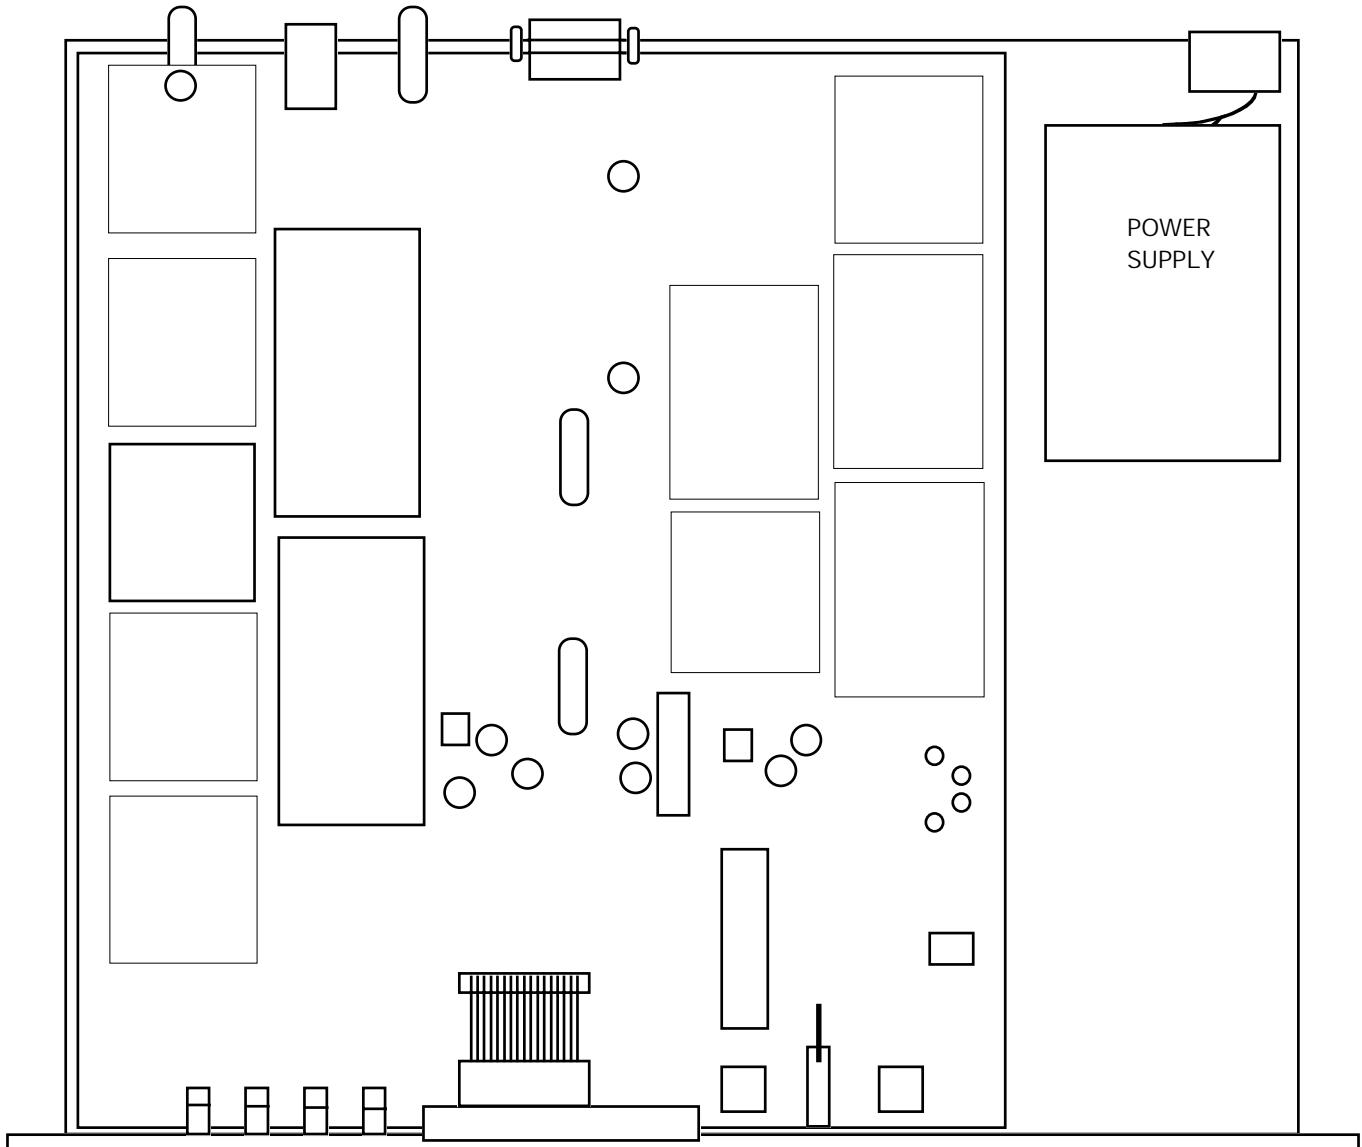

FIGURE 2.1 2015-25 Mechanical Assembly
2.1 Mechanical - The 2015-25 consists of one RF/Controller PCB housed in a 1 RU (1 3/4 inch high) by 16 inch deep chassis. A switching, ± 12 , +24, +5 VDC power supply provides power for the assemblies. The 2015-25 can be secured to a rack using the 4 holes on the front panel. Figure 2.1 shows how the 2015-25 is assembled.